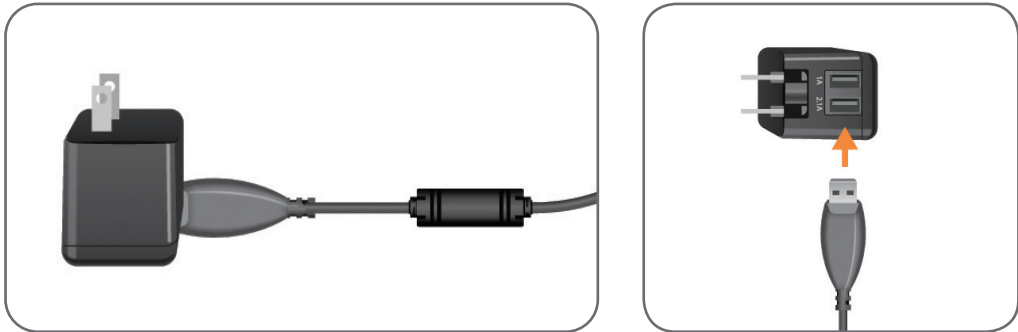

Figure 6-1: Inserting USB Charging Cable into AC Adapter
2. Insert the USB end on the charging cable into any of the two available USB ports on the AC adapter. See Figure 6-1.